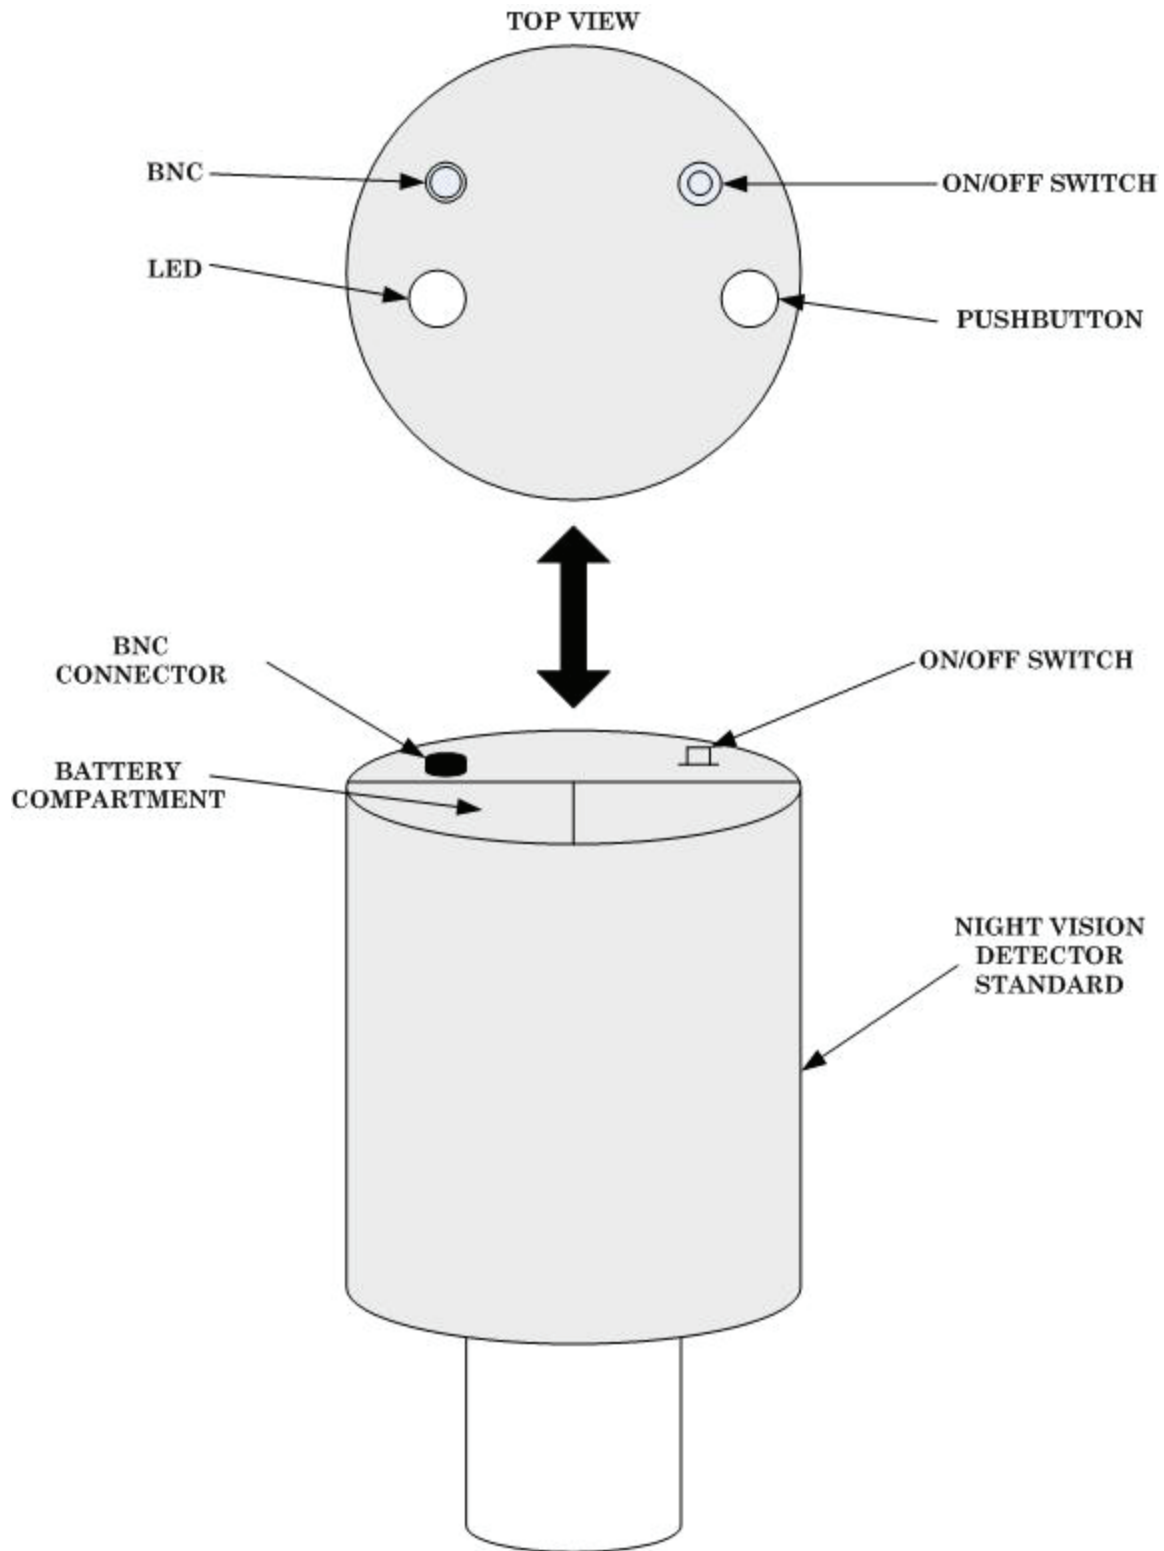

Figure 1. Night vision device detector standard - battery compartment cover location.
a. Momentarily energize both secondary reference and transfer NVD detector standards; press battery test pushbutton and verify that red LED illuminates; if not, replace batteries and retest (see figure 1).